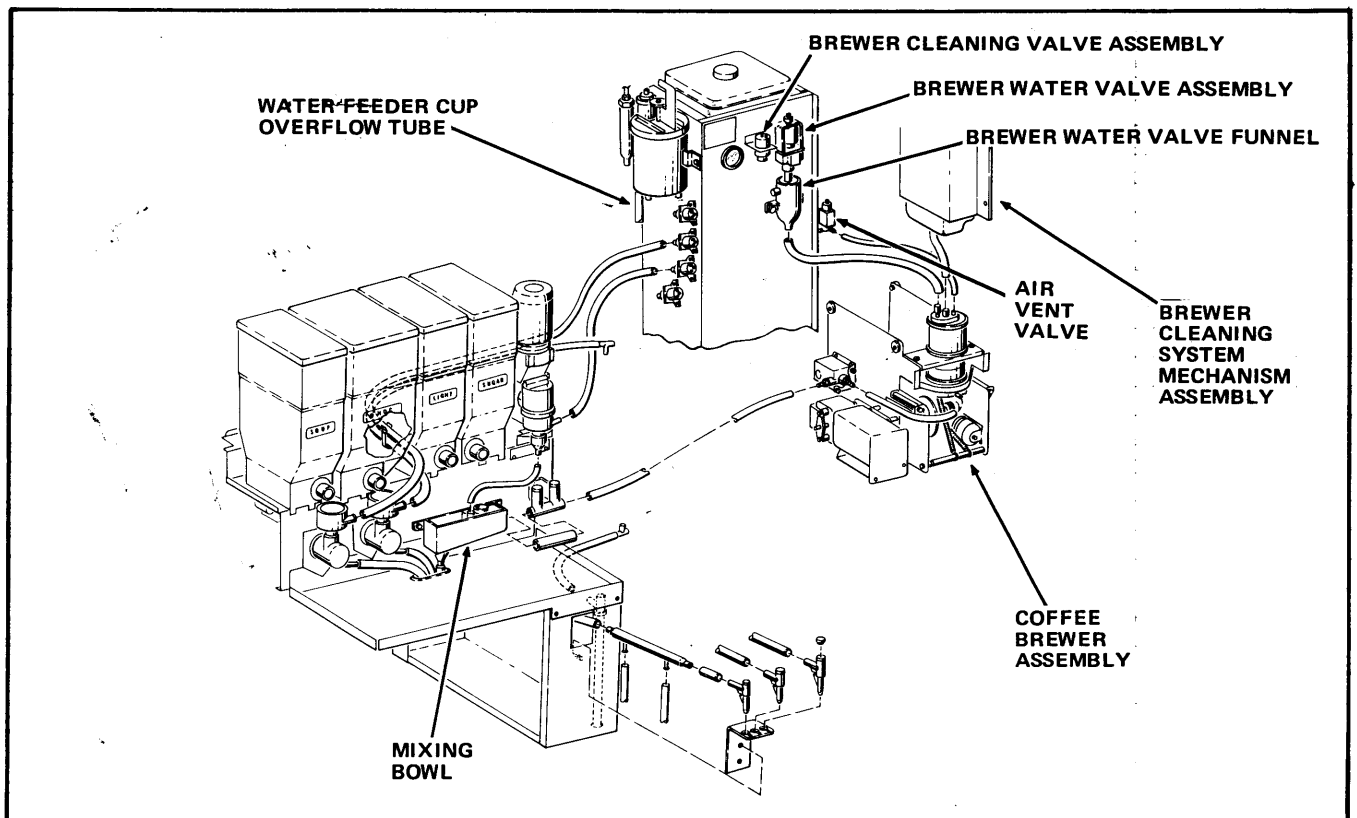

FIGURE 2
8. Remove the Brewer Cleaning System Mechanism Assembly from the Right Sidewall on Merchandisers equipped with an Automatic Brewer Cleaning System. See Figure 2.
Assembly. If Merchandiser is not equipped with an Automatic Brewer Cleaning System remove the Valve Plug from the Water Tank Assembly. Retain the two Screws for installation of the Kit. See Figure 2.
14. Remove the tubing attached to the Brewer Water Valve Funnel from the Merchandiser. See Figure 2.
16. On 611 Merchandisers remove the Tee from the Water Feeder Cup Overflow Tube and the short Tee to Tee Tubing. See Figure 2.
18. Remove the Brewer Water Valve Funnel from the Merchandiser. See Figure 2.
19. Remove the Wires from the Brewer Water Valve Assembly. Be sure to tag the two wires to assure proper attachment during installation. Those two wires will be installed on the replacement Hot Water Valve Assembly. See Figure 2.
20. Remove the Brewer Water Valve Assembly from the Merchandiser. See Figure 2.